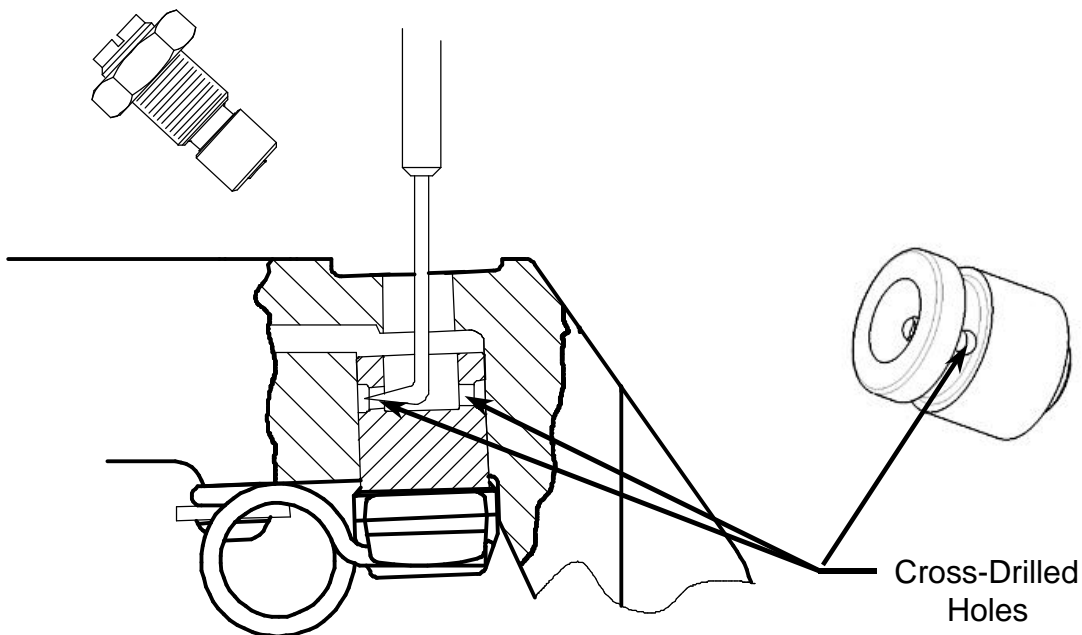

Figure 1. Inspection for Slave Piston cross-drilled hole.
- (6) Using a light source, inspect the slave piston to assure the presence of a cross-drilled hole. There are 2 holes per piston. If you cannot see a cross-drilled hole, a bent wire or mechanic's scribe may be used to probe for the presence of a cross-drilled hole (See Figure 1.)